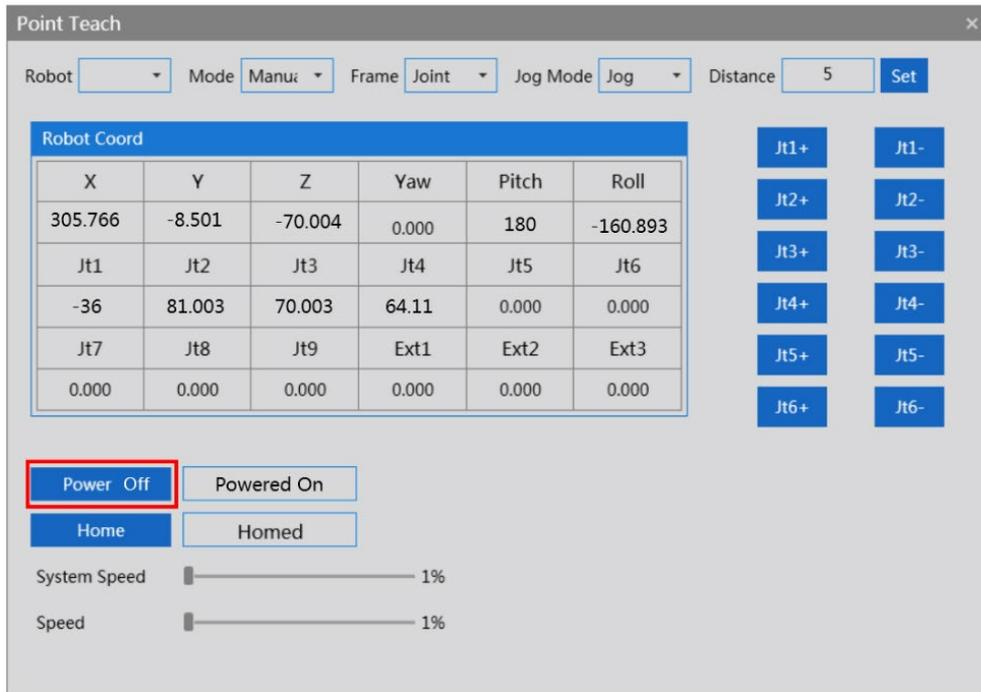

Figure 6-27 Interface of teaching in powered-on state
Step 1 Click the OFF button on the jog teach interface as shown in Figure 6-27